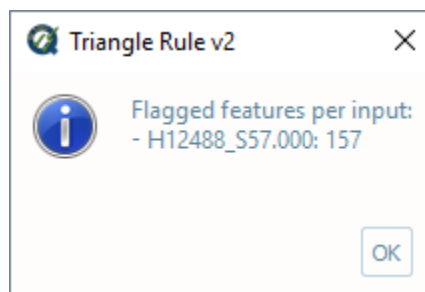

Fig. 2.42: Triangle rule’s output message.
- After executing, the output window opens automatically, and the results are shown by textbox (Fig. 2.42).